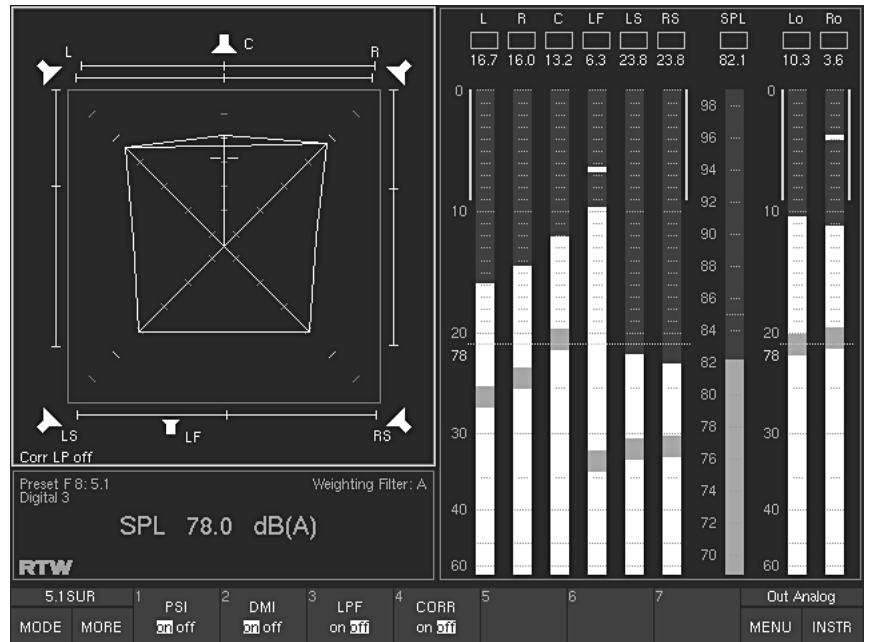

Fig. 5-12: The Surround Sound Analyzer (SSA) instrument in 5.1 surround mode
(Button/key 1, see Fig. 5-12)
(Button/key 2, see Fig. 5-12)
(Button/key 3, see Fig. 5-12)
(Button/key 4, see Fig. 5-12)